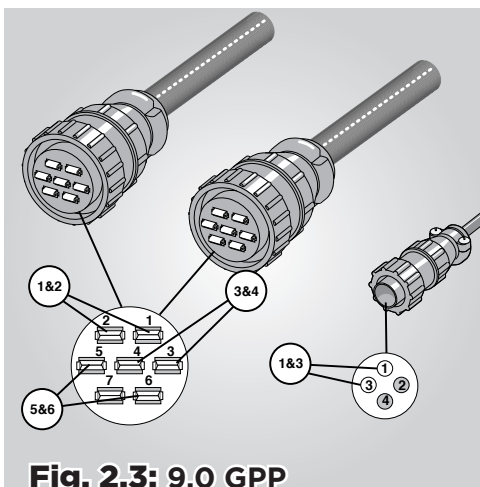

Fig. 2.3: 9.0 GPP
9.0 GPP:	1 & 2 / 3 & 4 / 5 & 6 (See Fig. 2.3)
- 9.0 GPP: Check each of the Voltage terminal pairs on both of the output connectors for approximately 67 Volts RMS AC. Pairs: 1 & 2, 3 & 4 and 5 & 6 (See Fig. 2.3). Also, check for 115 Volts RMS AC on the smaller 2-pin connector.